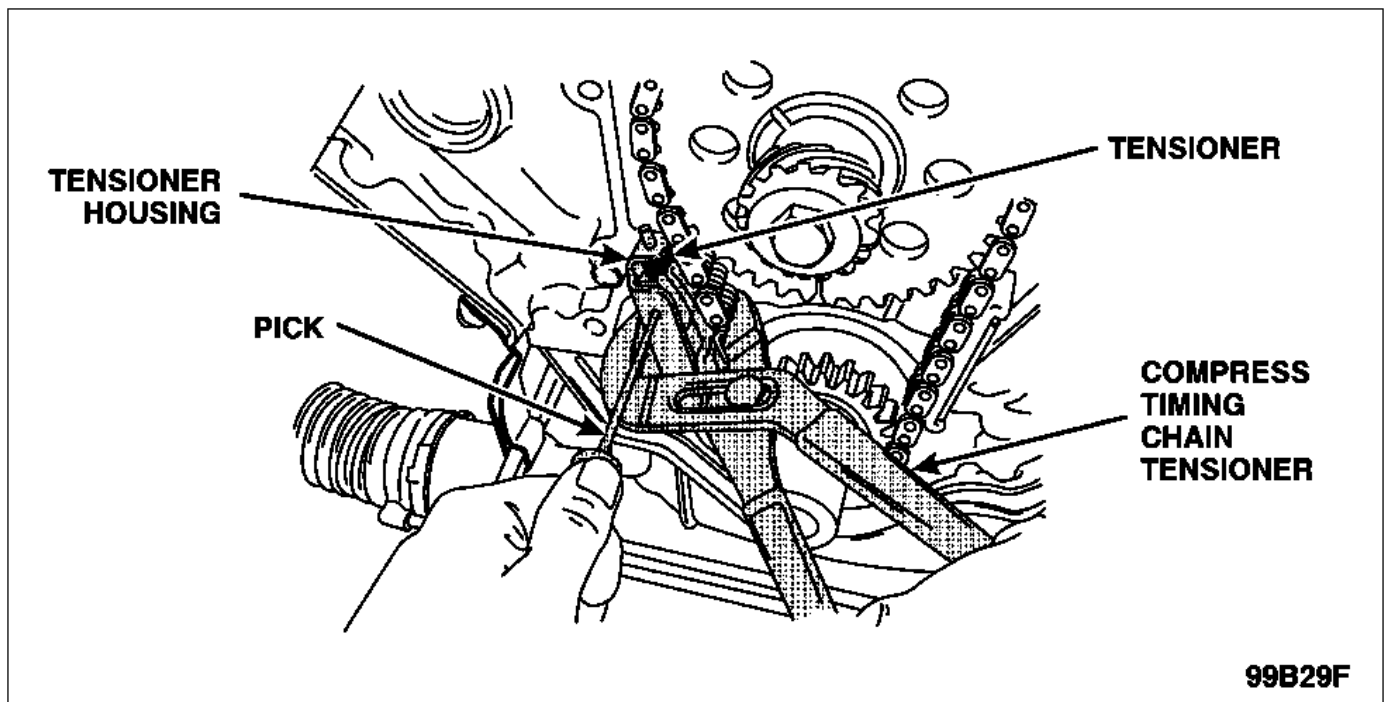

FIGURE 6
- Using pliers, compress the timing chain tensioner. See Figure 6.
- Insert a pick through the tensioner housing and into the tensioner. See Figure 6.